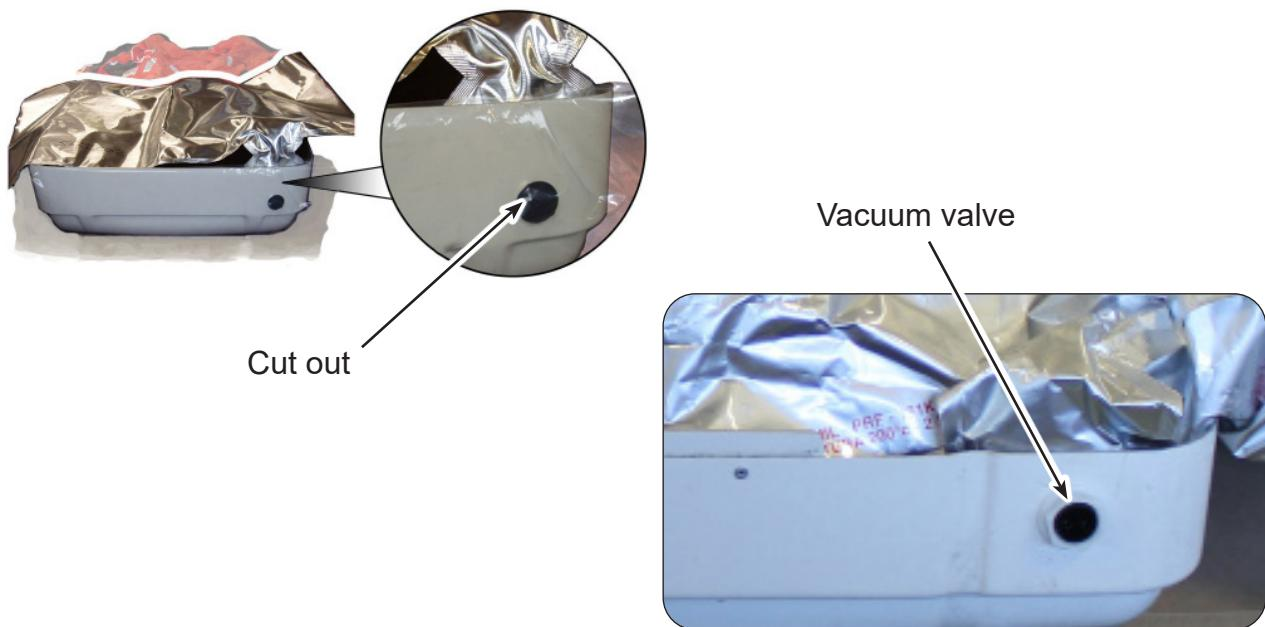

FIGURE 820G
Refer to **Figure 820G**
- 4.6.10 Put the vacuum valve into the cut out. Refer to **Figure 820G**